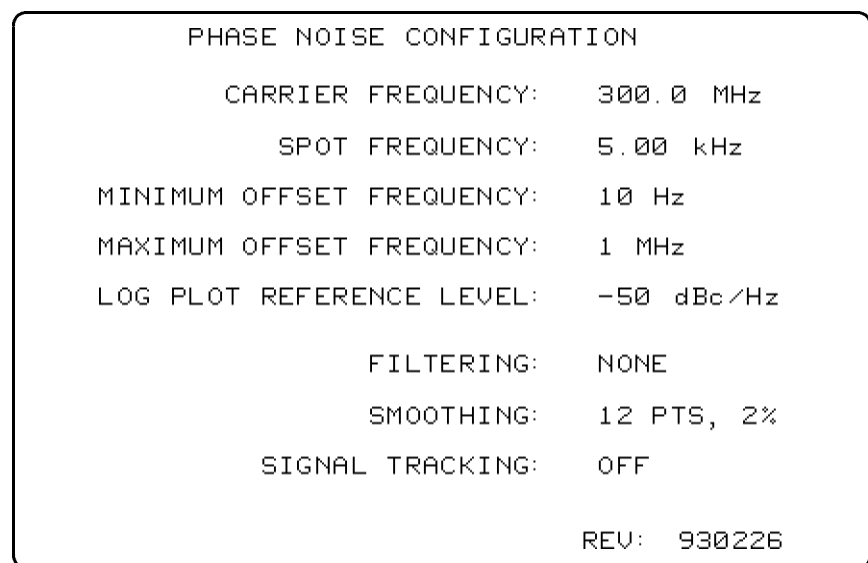

Figure 1-2. Configuration Screen
4. The configuration screen, Figure 1-2, shows the current measurement settings. Press **CONFIG** to access the configuration menu of softkeys.